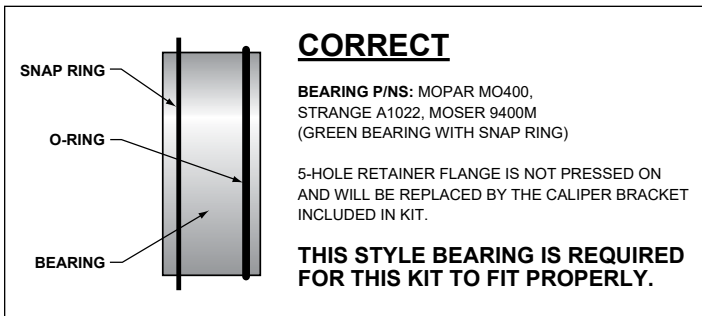

Figure 1. Snap Ring Bearing Configuration
- It is important to verify which bearing you have. There are two types of “Green Bearings” being supplied by axle manufacturers, each one requires a specific Wilwood rear disc brake kit for proper installation. Your setup should look like Figure 1, otherwise you have the wrong kit.
•Determine that the appropriate snap ring style Green bearing has been installed on the axle, as shown in Figure 1.